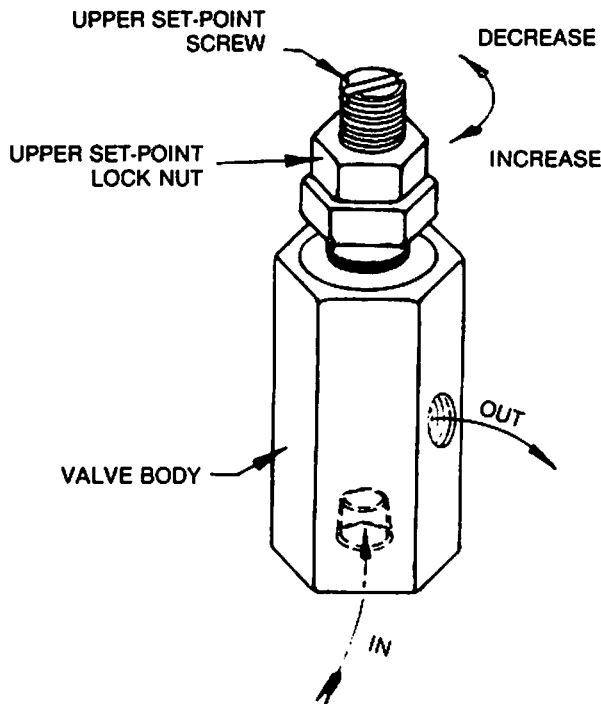

Figure 11
5. Adjust upper set-point as follows: (See Figure 11). Loosen the upper set-point locknut. Turn upper set-point screw, as indicated in Figure 11, to increase or decrease upper set-point. (1/8 turn causes approximately 6 psi change in set-point). Retighten the upper set-point locknut after adjustment.